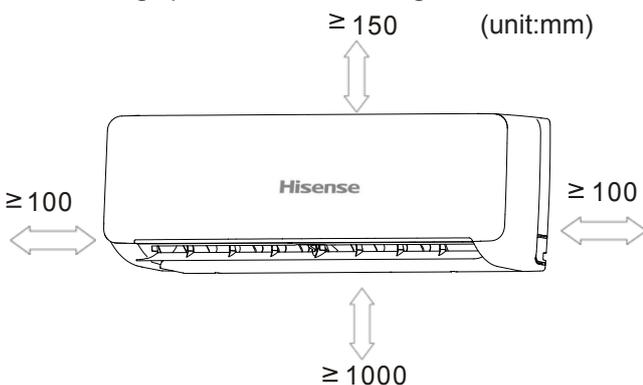

Fig. 4.1 Operation and Maintenance Space
- Install the indoor unit with a proper clearance around it for operation and maintenance working space, as shown in Fig. 4.1.